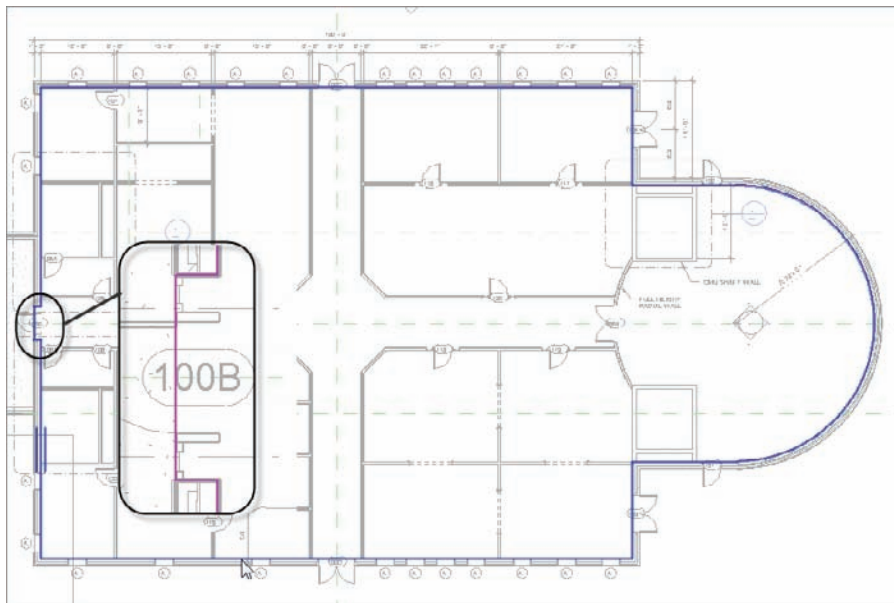

FIGURE 6.18 Adding a slab to the east wing
5. Trim any gaps or overlaps that may occur in the corners. Be sure to extend the slab into the doorway, between the east wing and the corridor, as shown in Figure 6.18. Also, pay special attention to the radial entry. It can be tricky.